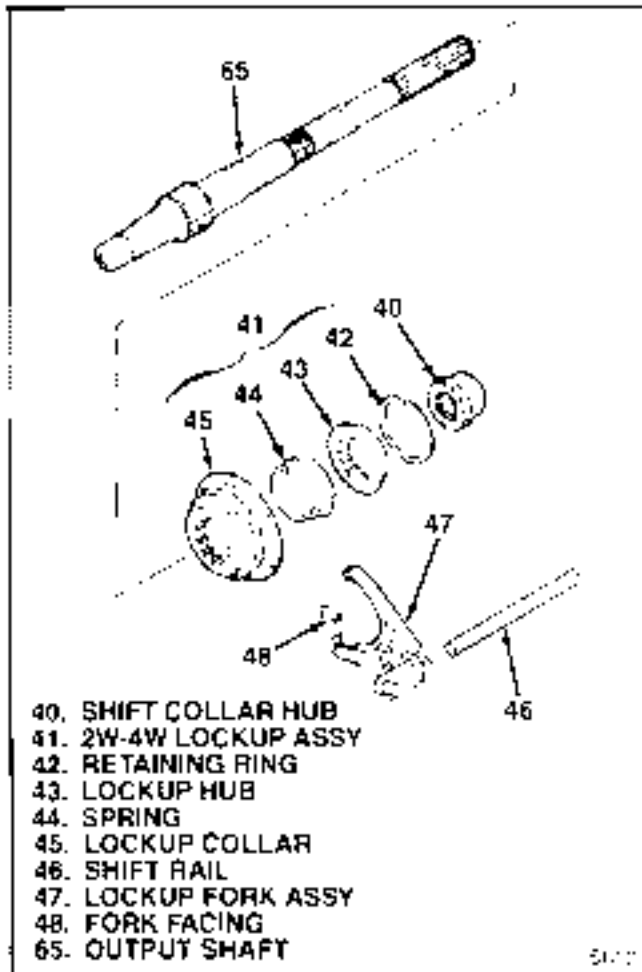
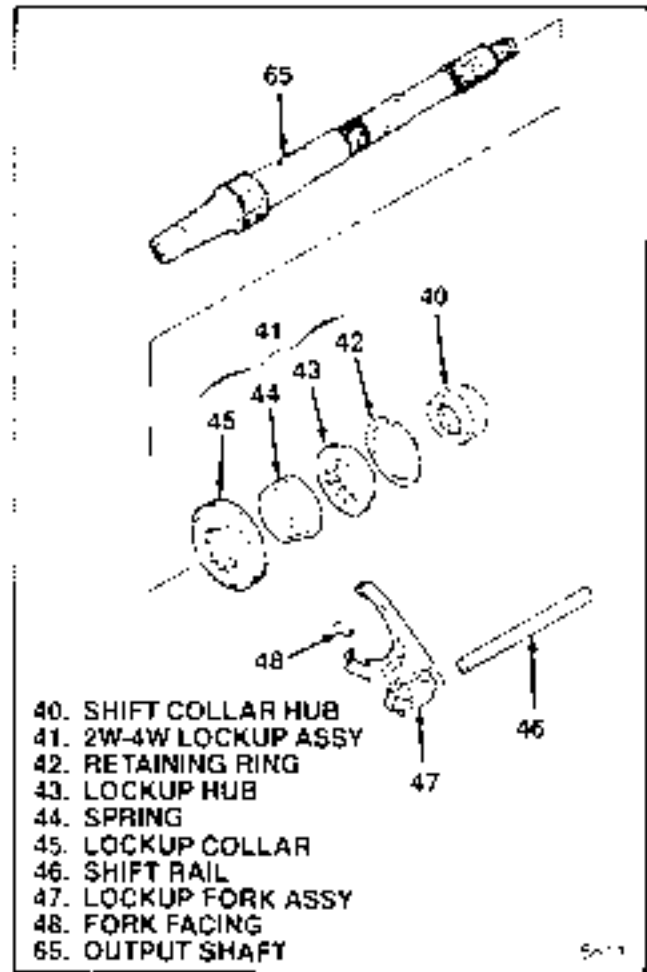

Figure 3-7. Lockup Shift Parts (Electric Shift)
Figure 3-8. Lockup Shift Parts (Mechanical Shift)
From remaining transfer case assembly (10) through (10), remove the following (see figure 3-7 for electric shift, figure 3-8 for mechanical shift):
- a. Remove shift collar (10) from output shaft (65).
- b. Together, slide 2W-4W lockup assembly (11) and 2W-4W shift fork assembly (17) from output shaft (65) and shift rail (46). Separate assemblies, remove shift rail (46) and remove two fork bearings (18) from fork assembly (17).
- c. To disassemble 2W-4W lockup assembly, remove retaining ring (12), lockup hub (43) and spring (41) from lockup collar (45).